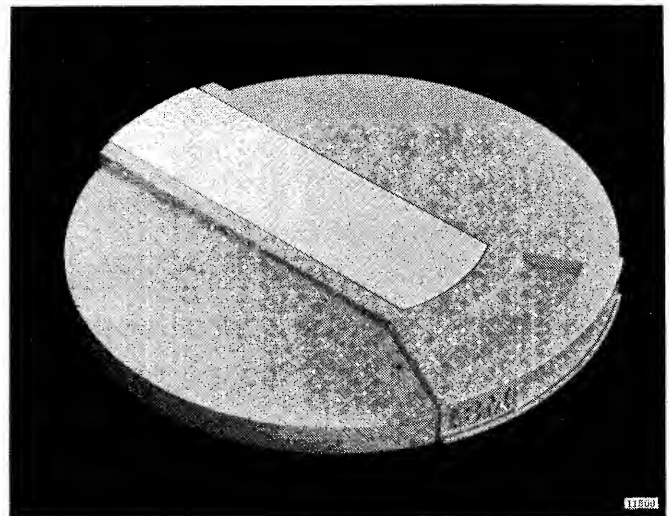

Figure 3. IBM 2315 Disk Cartridge
3. IBM 2315 Disk Cartridge—a single disk with an integral protective cover providing two recording surfaces (Figure 3).